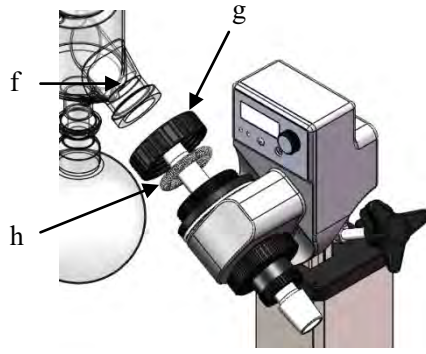
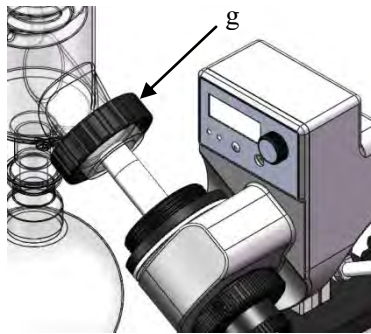

**Fig. 4**
**Fig. 5**
- Mount the seal ring (Fig. 4 and Fig. 5)